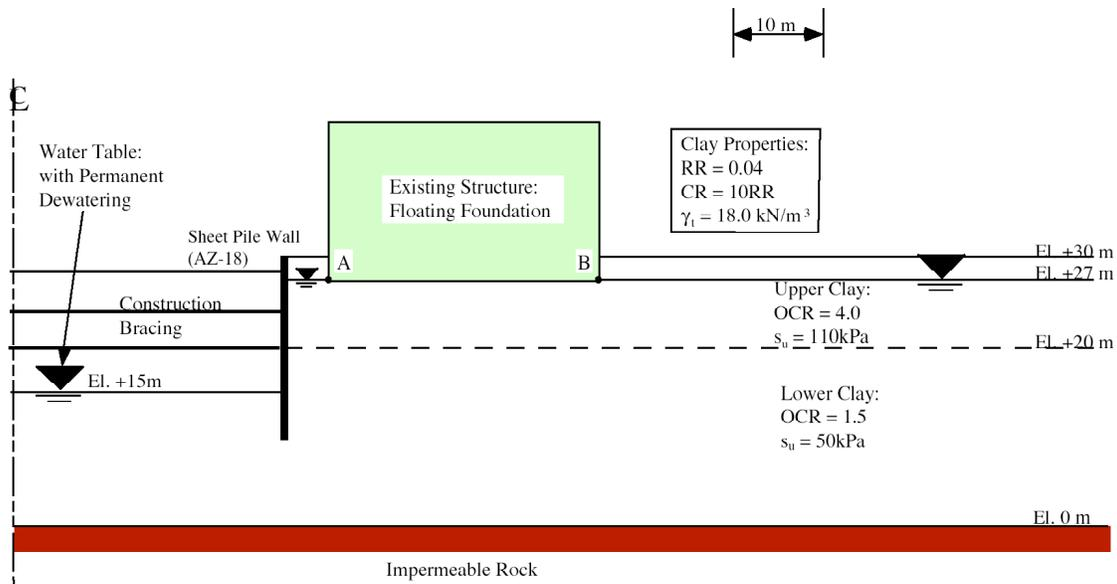

Figure 1. Braced excavation support and adjacent structure
1. Figure 1 shows a 15 m deep, 60 m wide braced excavation for a new underground highway to be constructed by the cut-and-cover method. The initial excavation is supported by a sheet pile wall (section AZ-18, with bending stiffness, $EI = 67\text{MN}\cdot\text{m}^2/\text{lin. m}$) driven to El. 10m, with three levels of cross-lot bracing (Fig. 1). The ground water table is close (3m deep) to the ground surface. Hence, the highway structure itself, must either be designed for the long term buoyant uplift pressures (most likely by means of a tie down system) OR the design must include a permanent dewatering system to reduce the water pressures on the foundation slab.